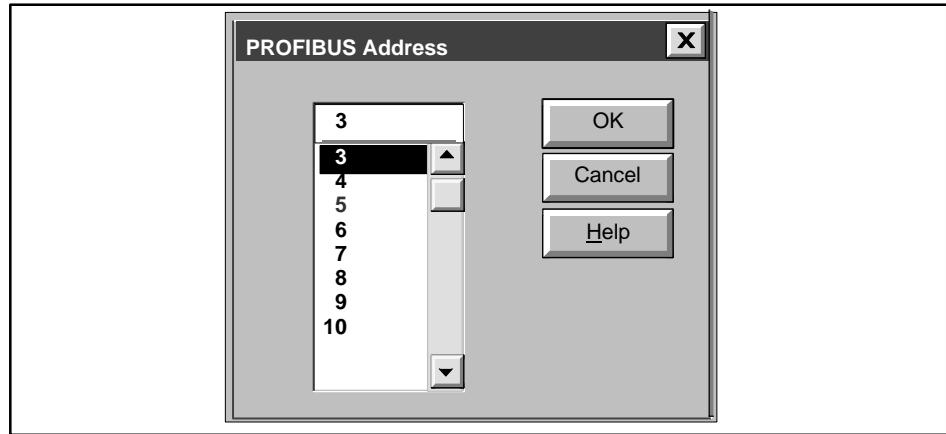

Figure 9-4 PROFIBUS Address Dialog Box
- From the list of slave types, select the PROFIBUS device that you want to add to your network. Click and drag it to a position underneath the master system. The PROFIBUS Address dialog box opens (Figure 9-4).